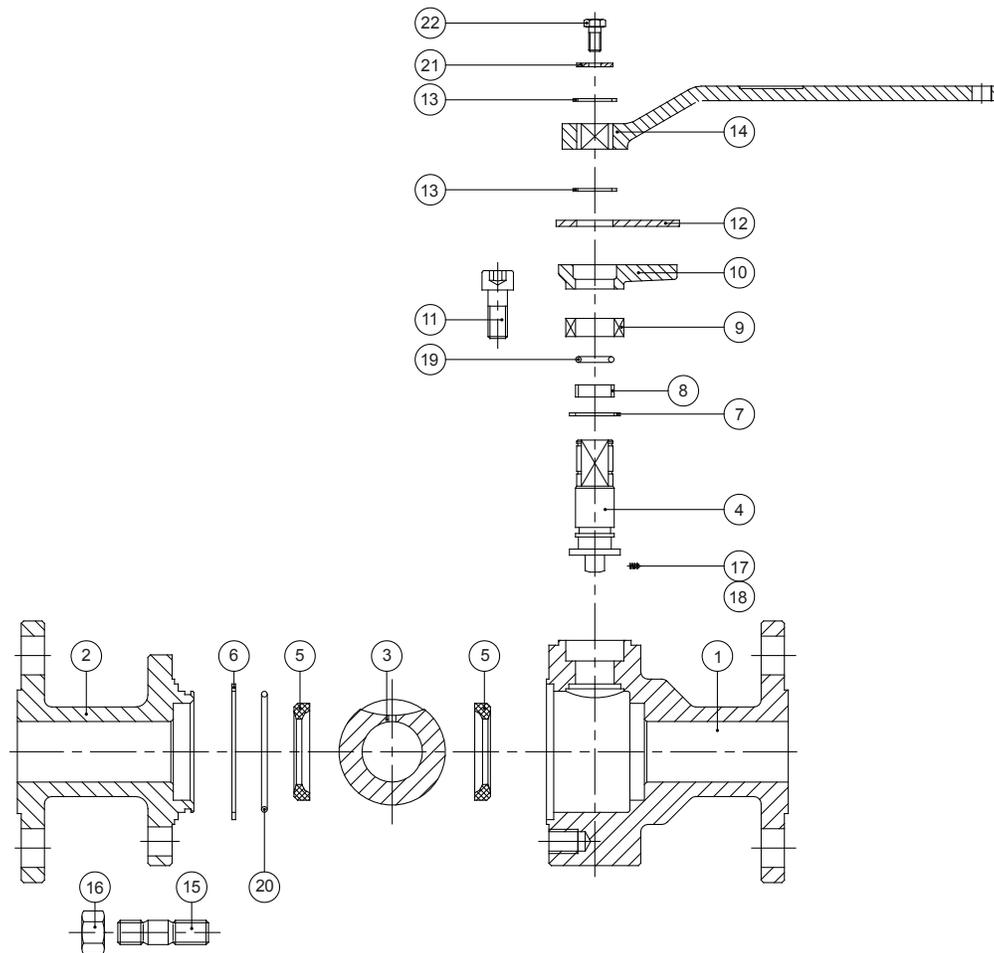

Figure 8. Tartarini™ Floating Ball Valve Assembly
The following procedure describes how to completely assemble the ball valve. When part replacement or inspection is required, complete only those steps necessary to accomplish the job. Key numbers are shown in Figure 8.
1. Place one seat (key 5) into the valve body (key 1) and place gasket (key 6), O-ring (key 20) and another seat (key 5) into the valve body cap (key 2) according to the position shown in Figure 8.